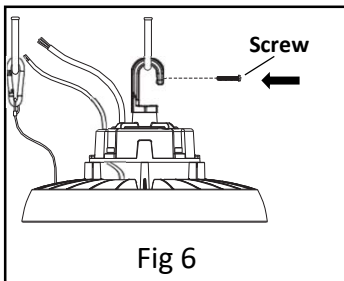

Fig 6
7. Install the retaining screw into the hook. *See Fig 6.*